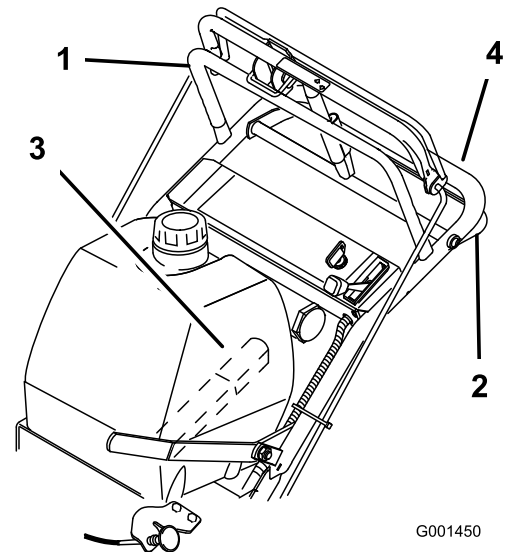
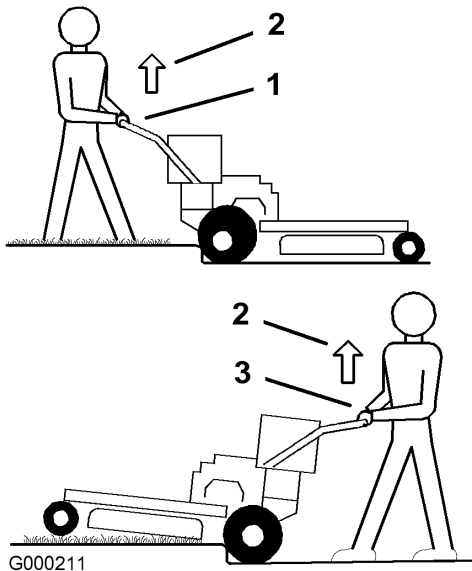
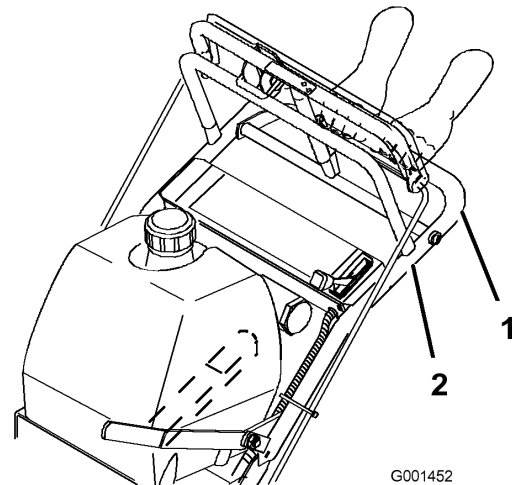

Figure 9
Figure 10
Figure 11
1. To go forward, move the shift lever to a forward gear (Figure 9).
3. Slowly press on the upper control bar to move forward (Figure 9).
To go straight, apply equal pressure to both ends of the upper control bar (Figure 9).
To turn, release pressure on the upper control bar side in the direction you want to turn (Figure 9).
3. Slowly squeeze the lower control bar and lower handle together to move rearward (Figure 9).
3. Drive machine until the castor wheels contact curb (Figure 10).
4. Lift the front of the machine by pushing down on the lower handle (Figure 10).
5. Drive the machine until drive wheels contact the curb (Figure 10).
6. Lower the front of the machine (Figure 10).
7. At the same time engage the lower control bar and lift up on the lower handle to drive over the curb (Figure 9 and Figure 10).
3. Drive the machine until drive wheels contact curb (Figure 10).
4. At the same time engage lower control bar and lift up on the lower handle (Figure 9 and Figure 11).